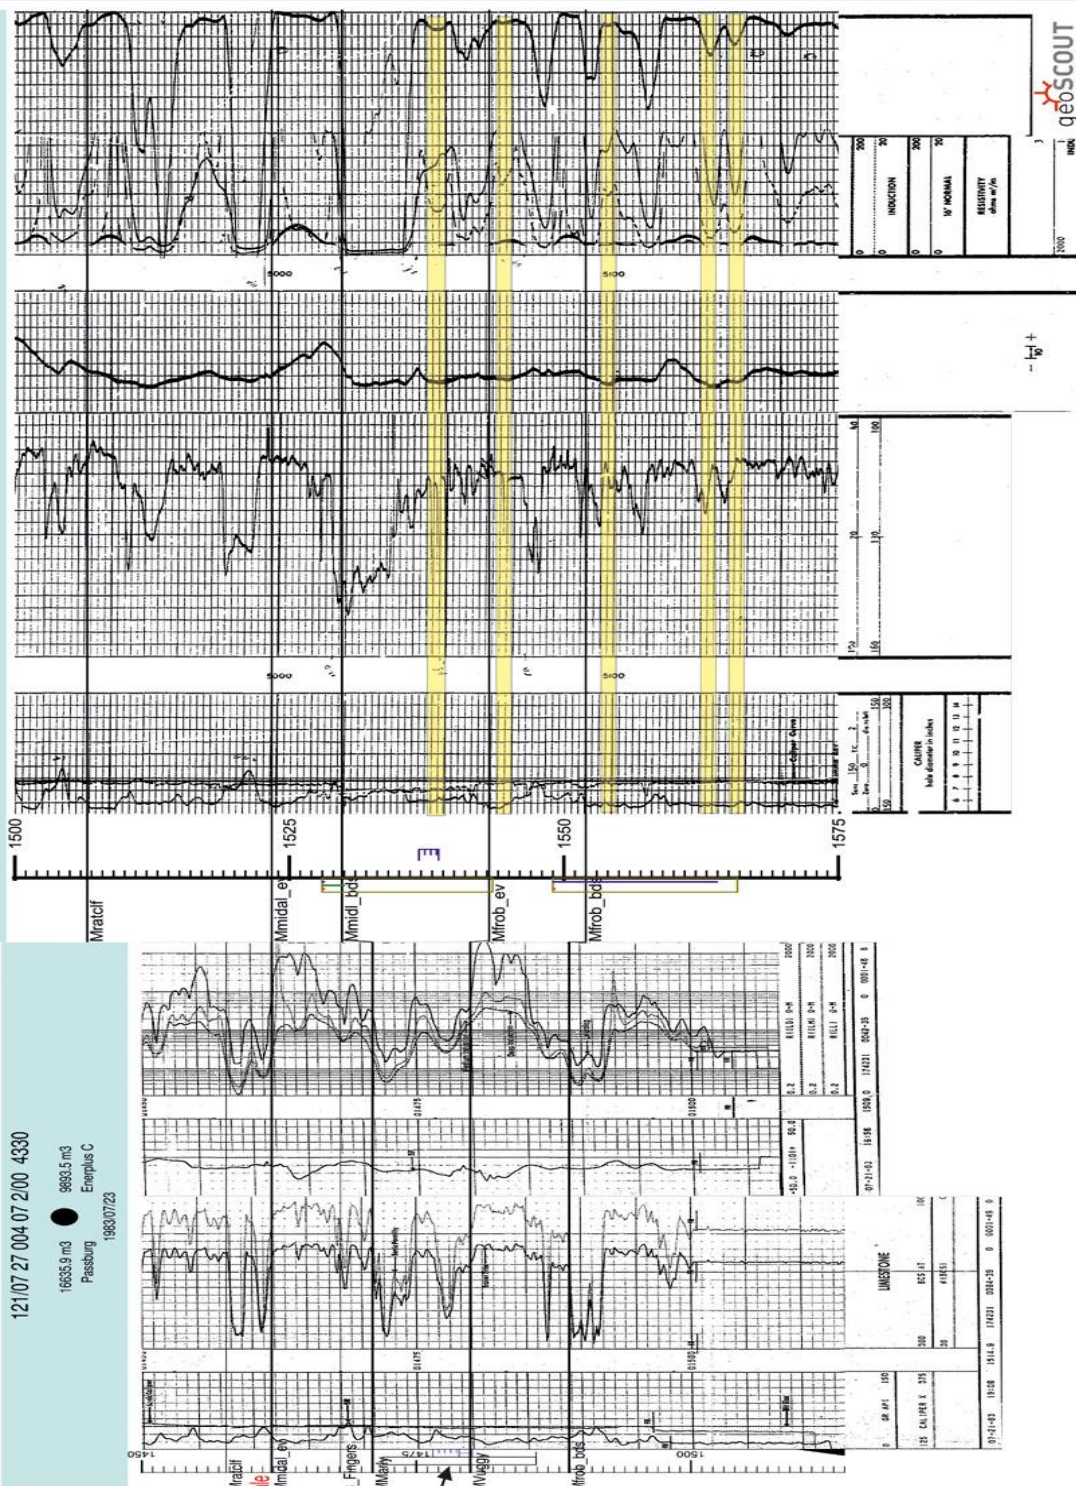

Рис. 2- Схема корреляции по скважинам 07-27-004-07 W2, 03-04-002-03W2.
- ▶ Figure 2 correlation diagram of wells **03-04-002-03W2**, **07-27-004-07W2**:
- ▶ It is possible to recommend intervals for the slotting perforation are shown in Figure 2. and Table 2.